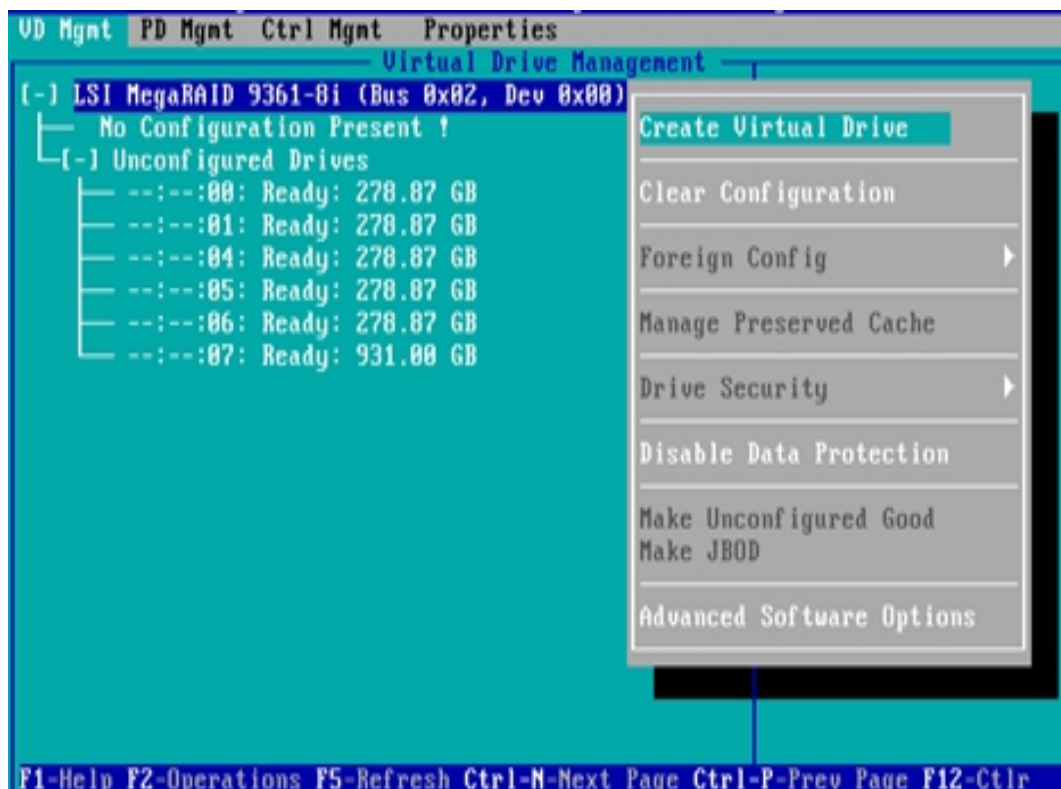

Figure 6-108
- c) As shown in figure 6-108, on the VD MGMT interface, press F2 and select create virtual drive.
- ✧ Figure 6-108 select Create Virtual Drive